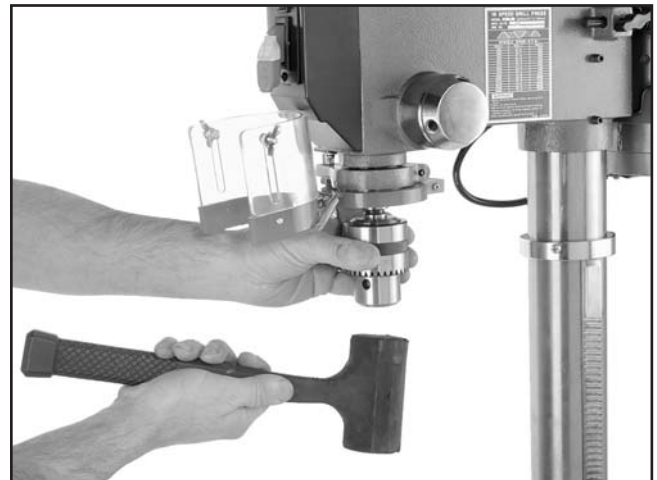

Figure 17. Seating arbor and chuck into spindle.
7. Seat the chuck with a rubber mallet, as shown in **Figure 17**.